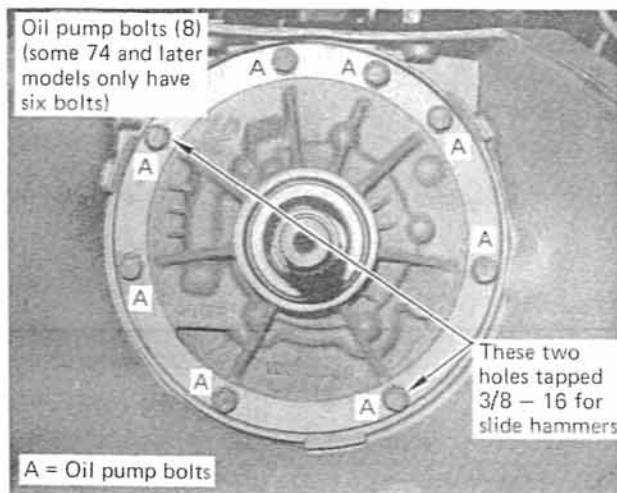

FIGURE 9
**STEP 12.** Remove eight oil pump retaining bolts. (See Fig. 9) Note: Some '73 and later units only have six bolts. The two bolt holes at the 5 and 10 o'clock positions are tapped for 3/8-16 thread. Install slide hammers or a length of chain at these locations and "bump" the pump assembly out of the case. On variable pitch models be careful not to damage the wire connected to the solenoid. Remove and discard pump gasket except on variable pitch models where it is attached to the pump. Remove and discard pump O-ring around the outside of the pump housing. Set the oil pump assembly aside.